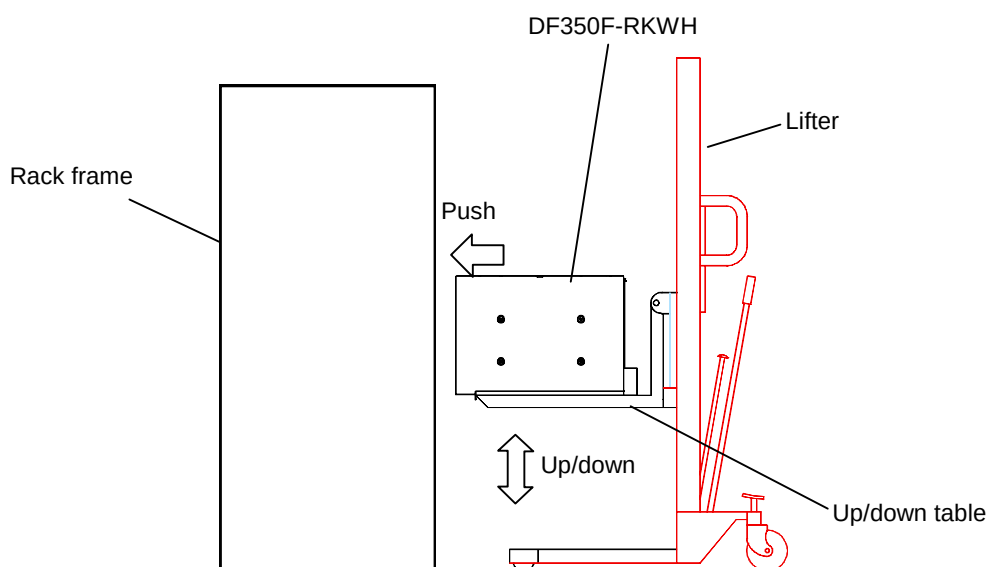

Figure 1.4.7 Install the DF350F-RKWH into the Rack Frame
1.4.5 Install the subsystem into the rack (See Figure 1.4.7.)